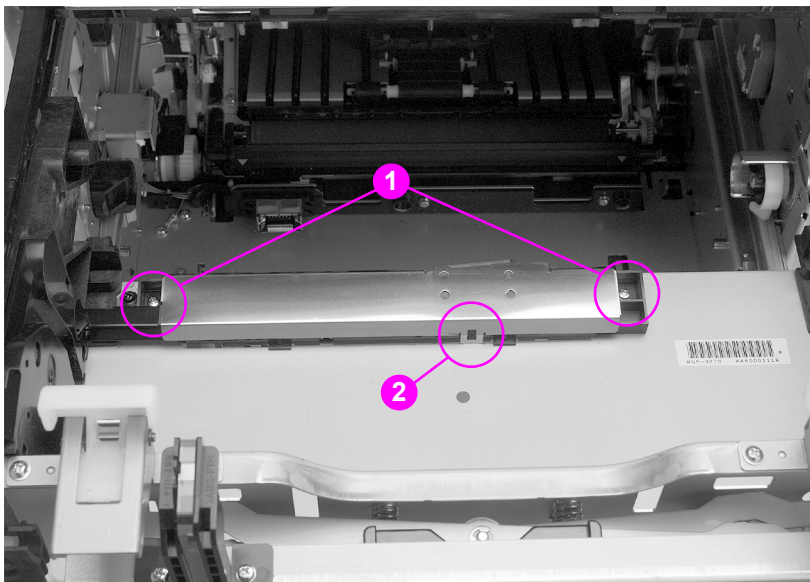

Figure 6-24 Densitometer removal and replacement (1 of 2)
- 2 Remove the two screws on the densitometer as shown in callout 1, Figure 6-24, and move the assembly slightly to the rear.
- 3 Use a small, flat-blade screwdriver to release the tab shown in callout 2, Figure 6-24, and remove the metal shield over the densitometer.